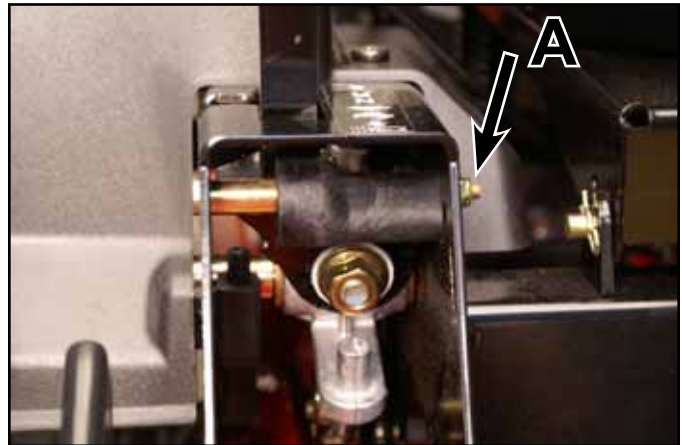

Fig. 069
2. Hold the pivot bolt in position with a 1/4" hex wrench, and then slightly loosen the eccentric pivot nut (A) (Fig. 069).